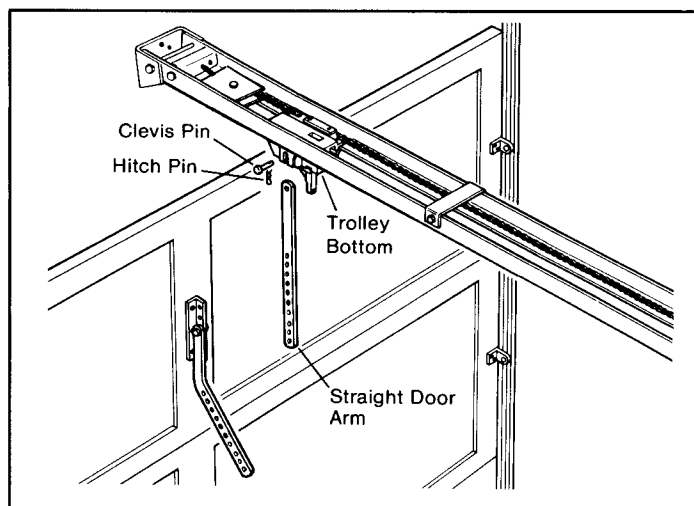

Figure 15
Step 33: Attach the straight section of the door arm to the trolley bottom (see Figure 15). Remove the hitch pin clip from the clevis pin and remove clevis pin from trolley bottom. Insert door arm into trolley bottom and slide clevis pin through trolley bottom and door arm and lock in place with hitch pin clip.